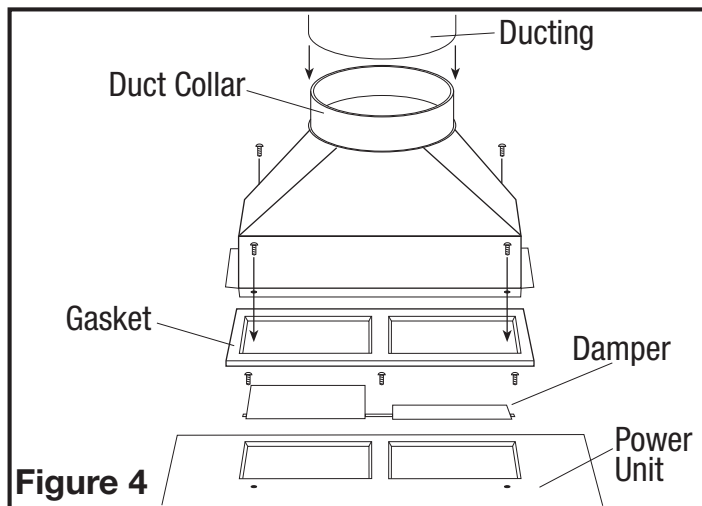
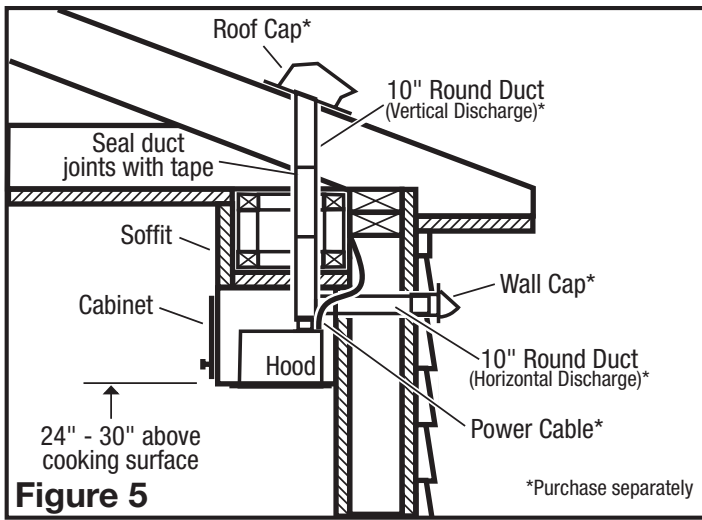

Figure 4
Figure 5
1. Install the included damper to the hood with three of the provided #6 blunt tip screws. Peel backing off the included gasket and while holding the dampers in a vertical position install the gasket onto the hood. Make sure to align the holes and rectangular cutouts to ensure the dampers open smoothly. Install the included duct collar to the hood with four of the provided #6 blunt tip screws (**Figure 4**). Ensure duct joints and exterior penetrations are sealed with caulk or other similar material to create an air-tight path to minimize building heat loss or gain and to reduce the potential for condensation buildup within the duct, as well as building heat loss or gain (**Figure 5**).
- When there is access to the top of the unit, connect the ducting to the duct collar and secure in place using tape to seal all joints (**Figure 4**).